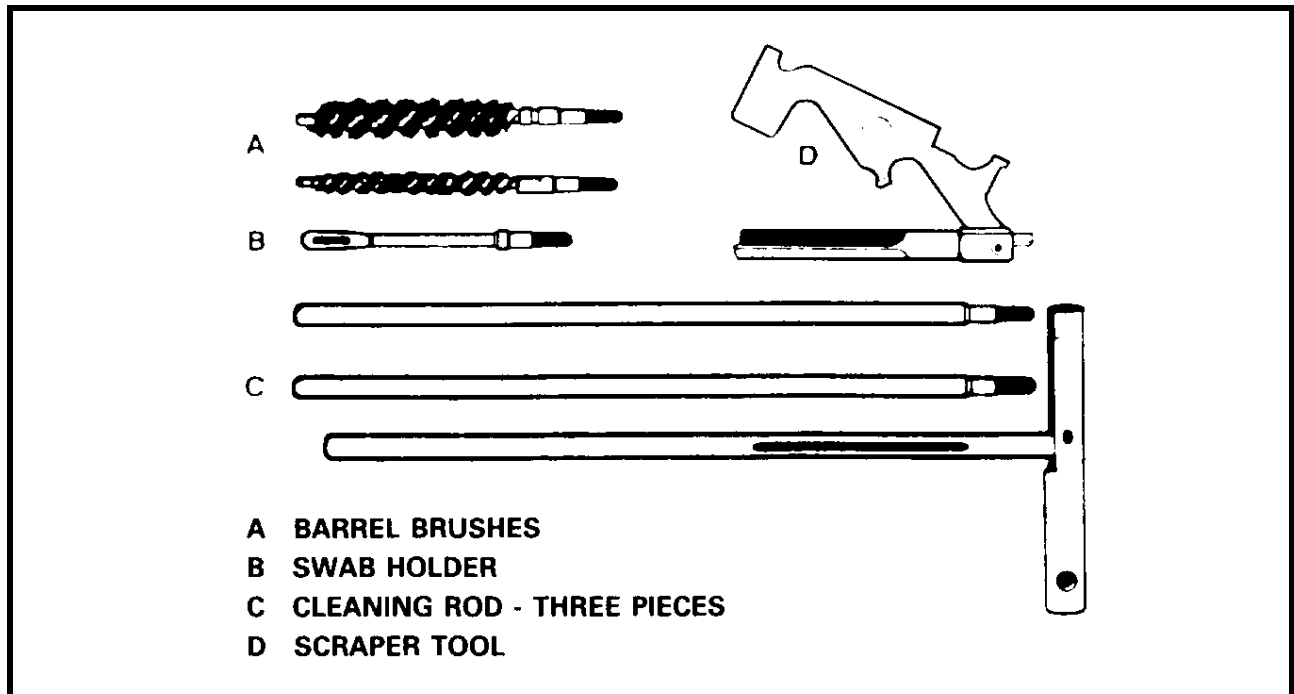

Figure 2-19 Cleaning Kit
46. **Cleaning Materials.** Explain and demonstrate, including removal and fitting into the handguard (see Figure 2-19).